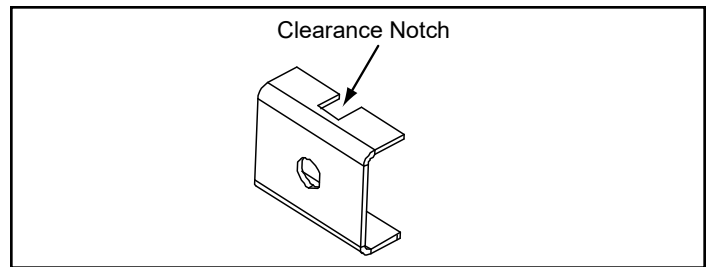

Figure 5.18
8. Each clip has a clearance notch to allow room for the cast on the insert. Place the clip so the notch is facing the outer edges of the surrounds (**Figure 5.18**).